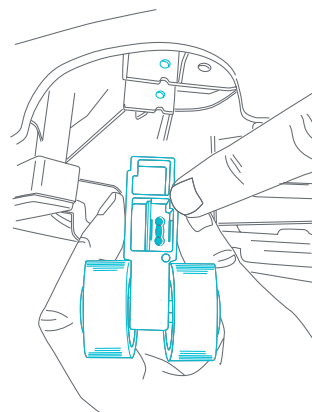

Fig. 16c
**RE-INSTALL:** To re-attach the wheels, reverse the steps above. Ensure the holes on the wheels are aligned with the holes on the base (Fig. 16c).